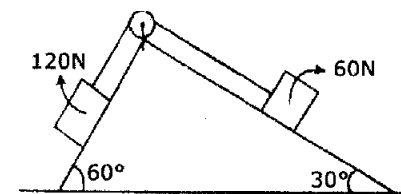

Figure 8
8. (a) State the Work-Energy principle and Impulse momentum principle. (4)
- (b) Two rough planes inclined at 30° and 60° to horizontal are placed back as shown in figure 8. The blocks of weights 60 N and 120 N are placed on the faces and are connected by a string running parallel to planes and passing over a frictionless pulley. If the coefficient of friction between planes and blocks is 0.3, find the resulting accelerations and tension in the string. (6)